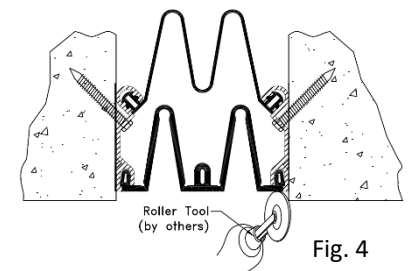

Fig. 4
8. Utilizing roller tool apply pressure directly over locking lug to ensure proper engagement of seal lug (Fig. 4).